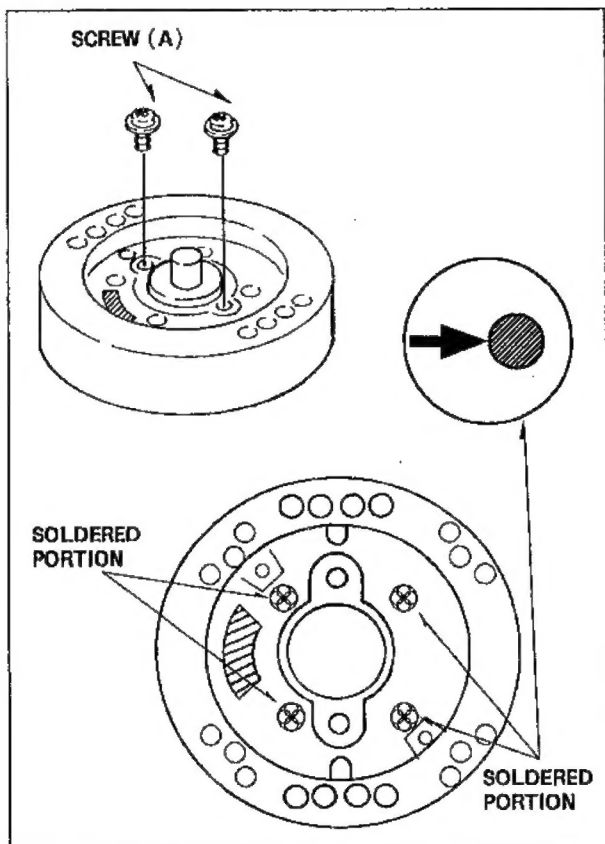

Fig.M1
1. Unscrew 2 screws (A).
2. Unsolder arrows marked portions on the top of the Upper Cylinder as shown in Fig.M1.